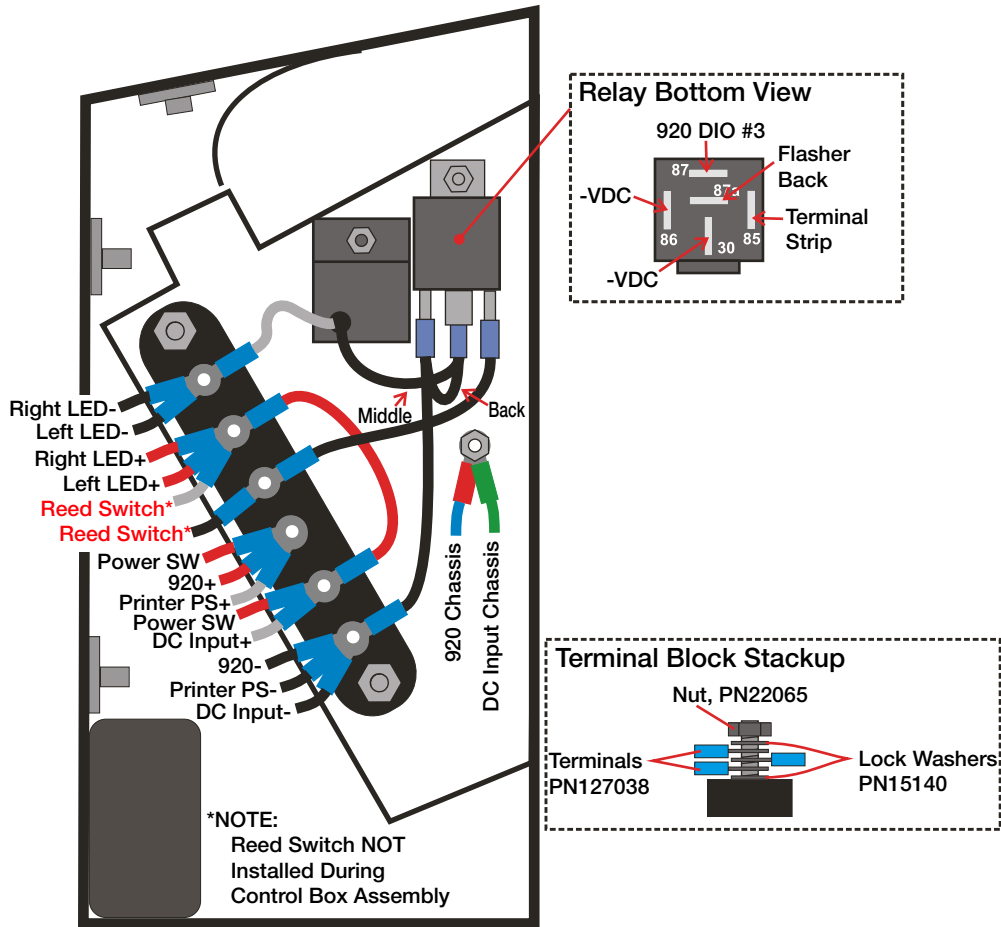

Figure 2-16. Terminal Block Connection
3. Connect the cable to terminal as shown in Figure 2-16.
6. Plug in the power cable into the corresponding connector in the weigh center. See Figure 2-16.